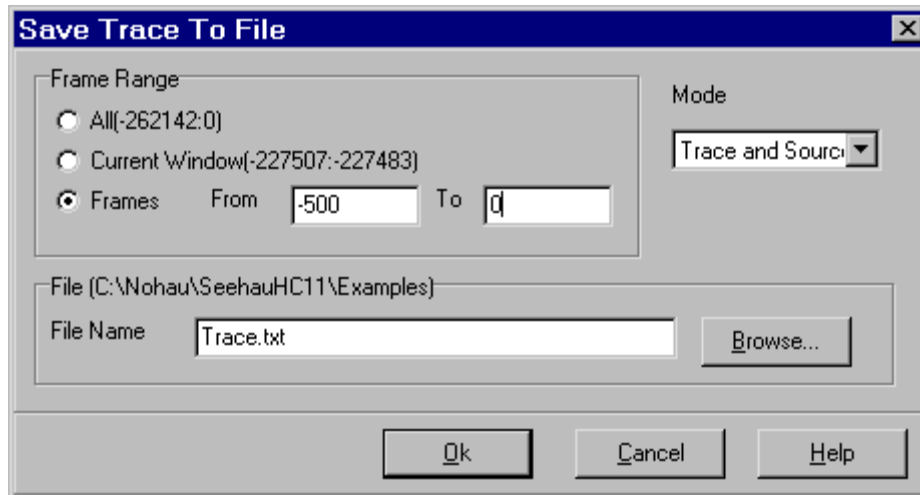

Figure 53. Save Trace to File Dialog Box
- **Save to File:** Opens the **Save Trace To File** dialog box where you can save the contents of the trace buffer as text to a file (Figure 53).